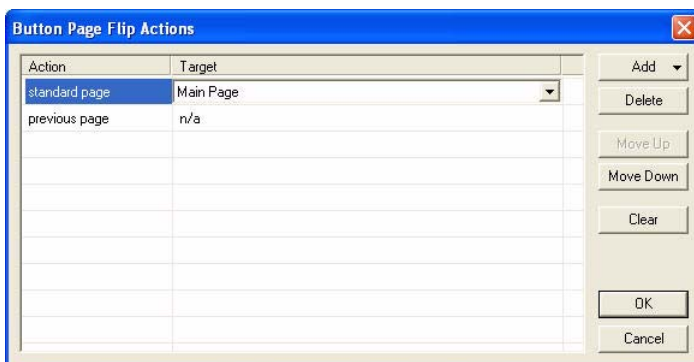

FIG. 33 Button Page Flip Actions dialog
3. Click the browse button (...) to open the Button Page Flip Actions dialog. The Button Page Flip Actions dialog (FIG. 33) allows you to set up page flips for any button type. A page flip causes the button to open a different page than the one containing the button.